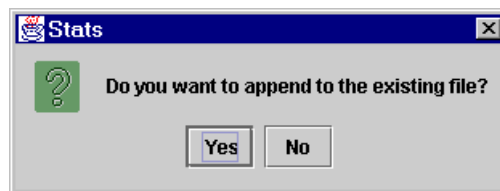

Figure 9-6. Export Host Statistics—Append Existing File
3. If you selected an existing file, the **Stats** dialog box displays (see figure 9-6). To append the host statistics to the selected file, click **Yes**.